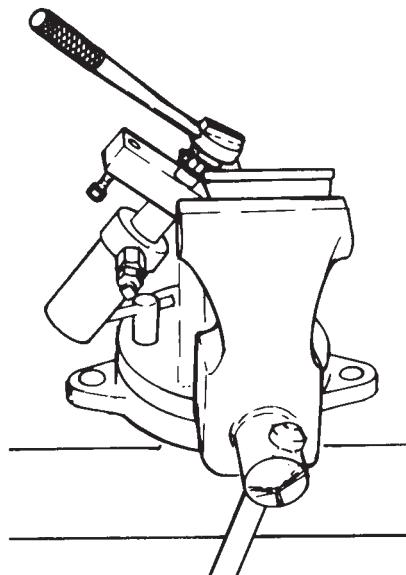

FIGURE 2
1. Place the arm of the swing/pull clamp in a vise. Loosen the cap screw located on top of the arm. See Figure 2.
1. Place the arm of the swing/pull clamp in a vise, and loosen the cap screw located on top of the arm. Remove the arm of the swing/pull clamp. See Figure 2.